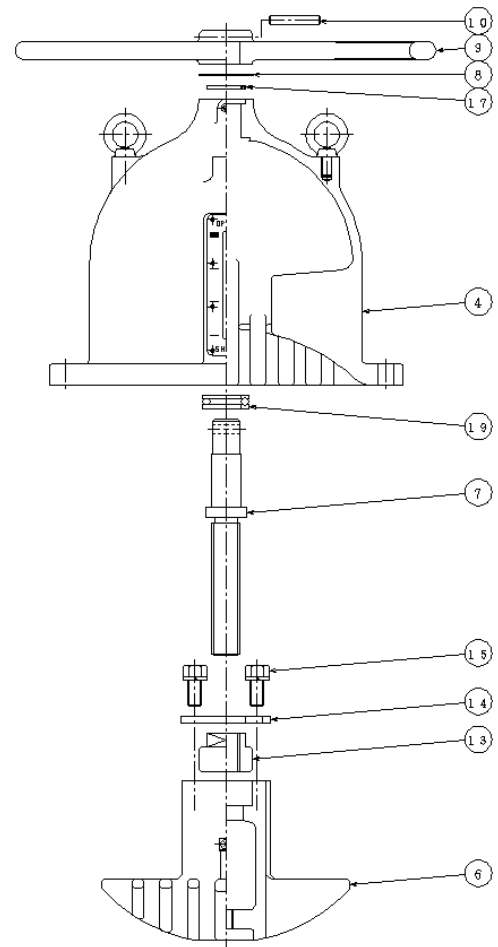

Figure 10
9.4.1 DN125 ~ 300 (Refer to Figure 10)